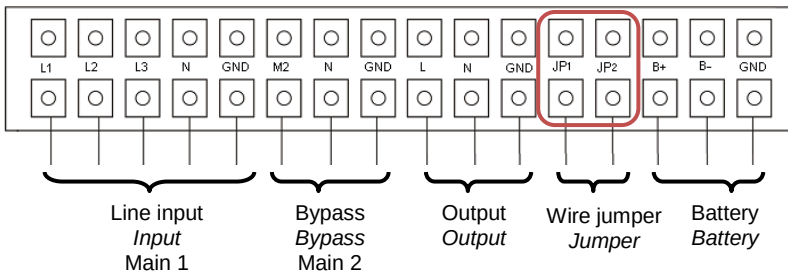

Figure 6: Terminal strip
Connect the cables according to Figure 6.
- For individual operation, **the jumper must be inserted between JP1 and JP2** (see Abbildung 6)
- For parallel operation, the jumper must be removed from JP1 and JP2 (see Abbildung 6)